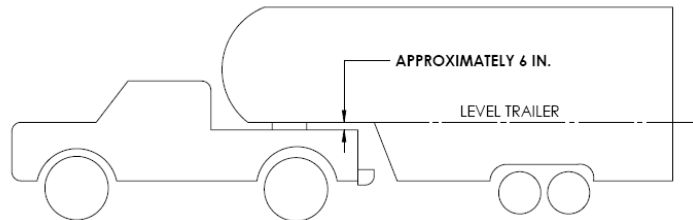

Figure 6
4. The Height of the hitch and pin box should be adjusted so the trailer is approximately level as it is towed. Allow approximately 6 in. clearance between the top of the bed and the underside of the front of the trailer for pitch and yaw of the trailer (See Figure 6). For off-road use allow more clearance between pickup walls and trailer.